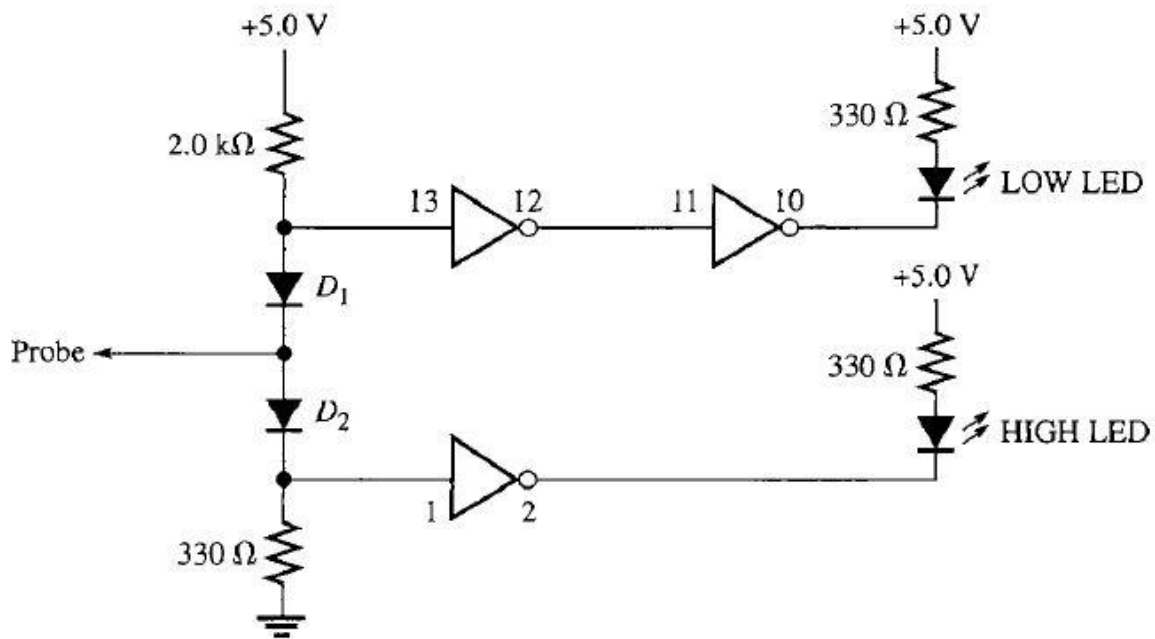

Figure 1.6: A Simple Logic Probe
The circuit in this experiment is a simple logic probe. Logic probes are useful for detecting the presence of a HIGH or a LOW logic level in a circuit. The logic probe in this experiment is designed only to illustrate the use of this tool and the wiring of integrated circuits. The probe shown in Figure 1.6 works as follows: If the probe is not connected, the top inverter is pulled HIGH (through the $2.0\text{ k}\Omega$ resistor) and the bottom inverter is pulled LOW (through the 330Ω resistor). As a result, both outputs are HIGH and neither LED is on. (A LOW is required to turn on either LED). If the probe input is connected to a voltage above approximately 2.0 V , the voltage at the input of the lower inverter is interpreted as a logic HIGH through diode D_2 . As a result, the output of the lower inverter goes LOW, and the lower LED, representing a HIGH input, turns on. If the probe input is connected to a voltage below approximately 0.8 V , the upper input inverter is pulled below the logic threshold for a LOW, and the output inverter is LOW. Then the upper LED, which represents a logic LOW input, turns on. A more sophisticated probe could detect pulses, have a much higher input impedance, and be useful for logic families other than TTL; however, this probe will allow you to troubleshoot basic gates.
- Using the pin numbers shown, construct the simple logic probe circuit shown in Figure 1.6. Pin numbers are included on the drawing but frequently are omitted from logic drawings. Note that the LEDs and the signal diodes are polarized; that is, they must be connected in the correct direction. The arrow on electronic components always points in the direction of conventional current flow, defined as from plus to minus. Signal diodes are marked on the cathode side with a line. The LEDs generally have a flat spot on the cathode side or are the longer element inside the diode.